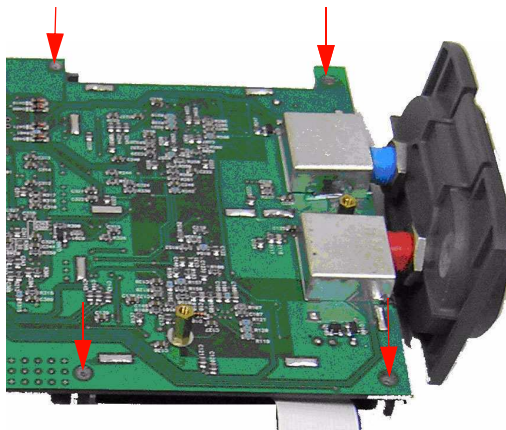

**Figure 8-13** Remove the six screws and pull the ribbon cable from the PCBA board
- 2 The front view of the PCBA board is shown in Figure 8-10. Turn over the PCB assembly board with the LCD display facing downward and remove the screw at the location as pointed in Figure 8-13.
- 4 Unplug the pin connectors at both side of the PCBA board as pointed in Figure 8-13.